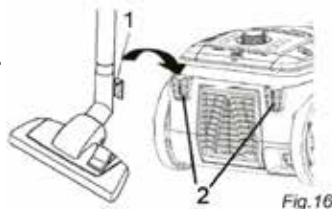

Fig. 16
- To store it or when taking a break from your work, you can hook the park/storage hook (Fig. 16/1) into the parking (Fig. 16/2) bracket.